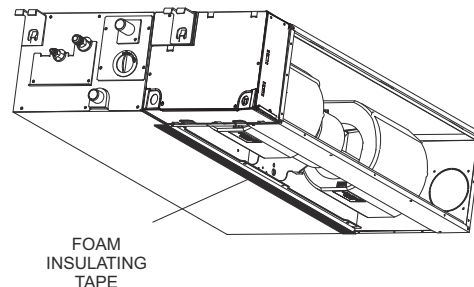

Fig. 11 — Applying Foam Insulation Tape
1. Apply foam insulating tape to the return air opening on the bottom of the unit. See Fig. 11 below.